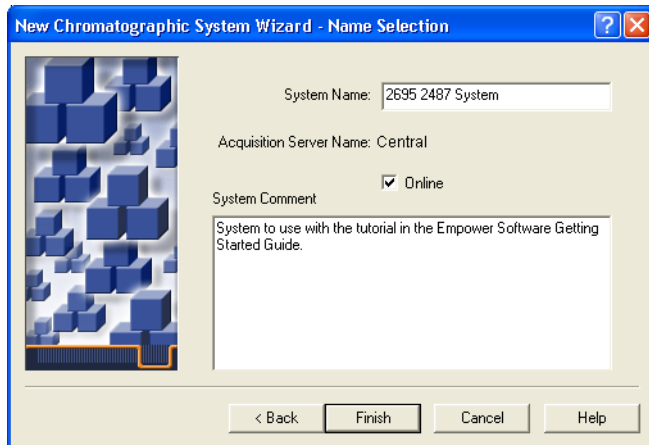

Figure 3-9 New Chromatographic System Wizard–Name Selection Page
6. This page establishes the level of access users and user groups will have to the system you create. Determine the appropriate access for the system, enter the information, then click **Next**. The Name Selection page appears (Figure 3-9).